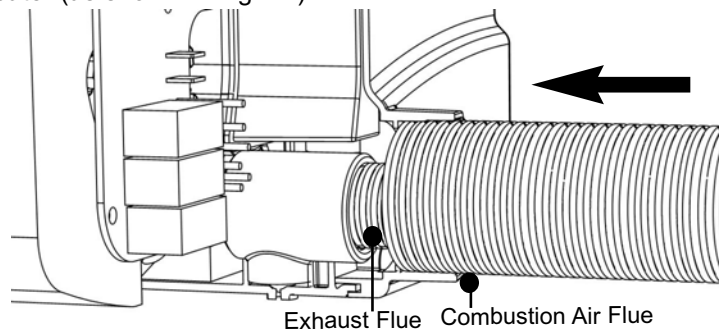

Fig. 22 Attach Combustion Air Flue
- ii. Fit the combustion air flue to the Water Heater by sliding it over the exhaust flue and then connect to the Water Heater (as shown in Fig. 22).